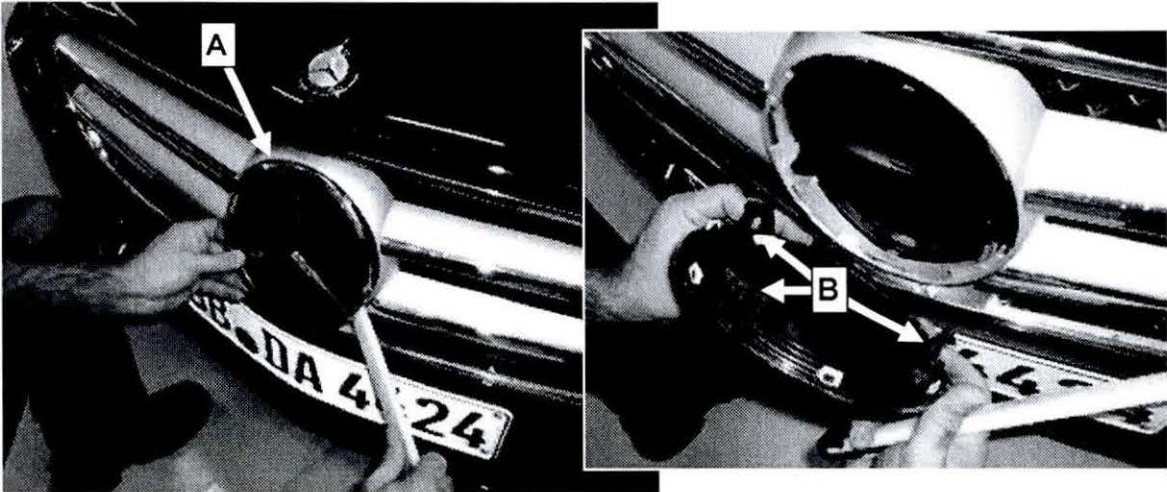

Figure 1
1. Unclip Mercedes star (A, Figure 1) at catch hook (B) using long wedge at radiator grille and remove (Figure 1).